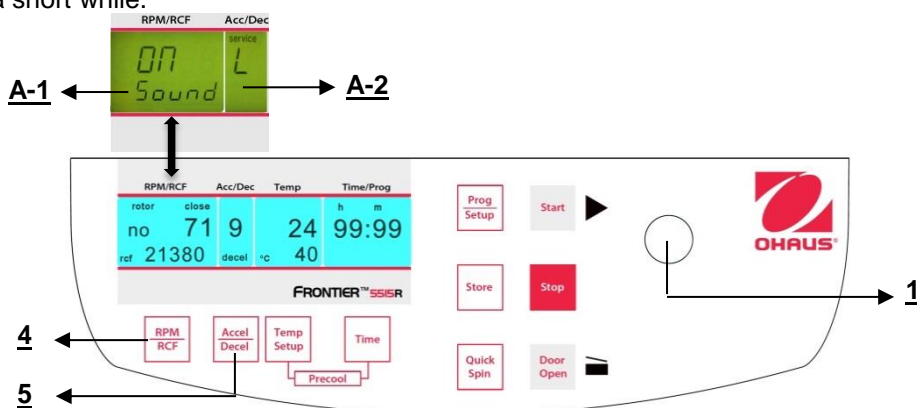

Figure. 33
Proceed as described under point 4.1.2 to enter this program mode and then press the key **"Accel/Decel"** (5). In the display **"Acc/Dec"** (A-2) the word **"Service"** flashes. Now select the letter **"L"** with the adjusting knob (1). As a result, the words **"On Sound"** appears in the display **"RPM | RCF"** (4). If you press the key **"RPM | RCF"** (4) now, the word **"On"** flashes and you can switch off the sound with the adjusting knob (1) (See figure 33).